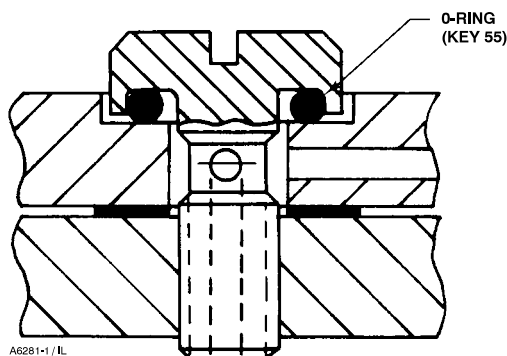

Figure 17. Bellows Screw Detail
4. If the controller or transmitter uses a Bourdon tube sensing element, disconnect the Bourdon tube from the beam (key 44) by removing the screw (key 63). Be careful to avoid losing the bearing (key 65). Unscrew the machine screws (key 77), and remove the washers and Bourdon tube (keys 76 and 62).
5. Unscrew the bellows screws (key 54) from each end of the mounting base (key 30). [Note: The bellows screws (key 54) have an O-ring (key 55, figure 17) installed beneath the bellows screw head. Remove the O-ring and obtain a replacement when re-assembling the bellows.]
6. Compress the bellows so that the end of the bellows and beam can be removed from the end of the mounting base (key 30) and unscrewed from the stud (key 51, not shown) that connects the bellows.
7. With the stud that connects the two bellows in place in the spacer (key 50), screw the new bellows onto the stud. Install new gaskets (key 53) on each bellows.
The bellows screw (key 54) has an O-ring (key 55) installed beneath the bellows screw head as shown in figure 17. Be sure this O-ring is in place before installing the screw into the mounting base.
8. Compress the bellows, and install them into the mounting base (key 30). With the beam parallel with the mounting base, secure the bellows with the bellows screws (key 54).
9. After tightening the bellows screws, make sure that the nozzle (key 57) is centered on the flapper (key 45).